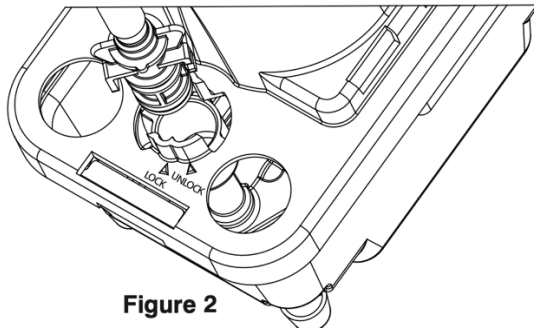

Figure 2
2. Fully insert the enclosed check valve into the discharge line, ensuring that the O-ring and discharge line are free of debris (Figure 2).